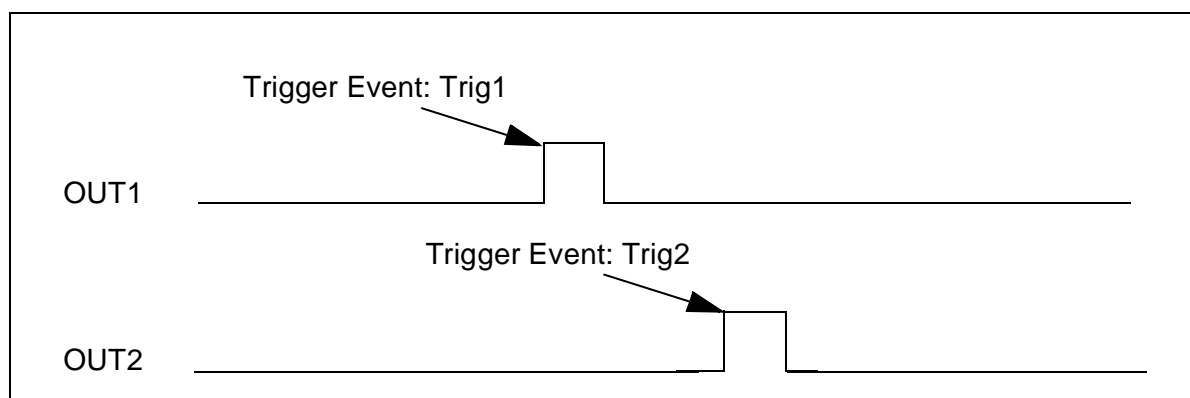

Figure 19: Synchronization Mode
- **Synchronization mode** (see *Figure 19*) allows you to configure two synchronization pulses (Trig1 and Trig2) for triggering external hardware. The events can be defined by addresses or address ranges.